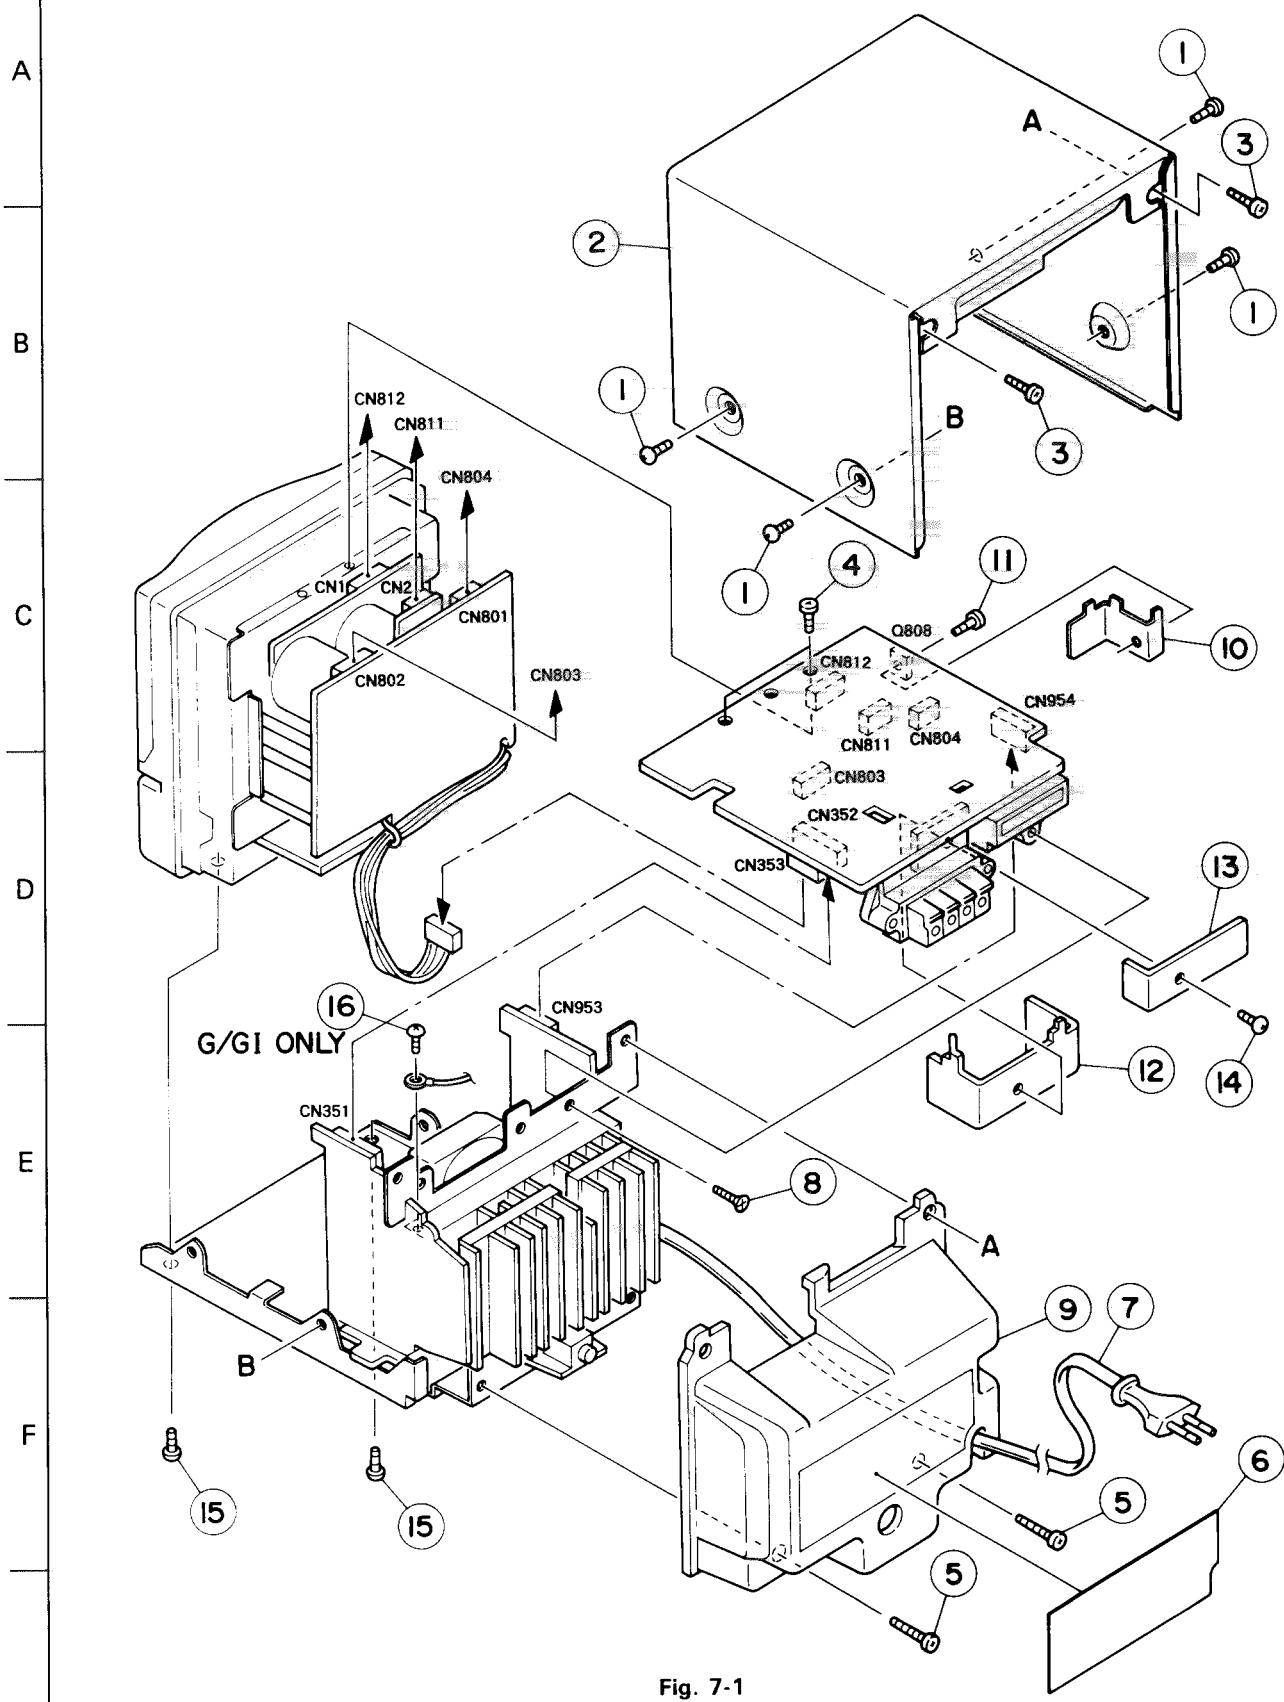

Fig. 7-1
■ Separation of Front Panel Ass'y and Power Supply Unit Ass'y (Fig. 7-1)
1. Remove the four screws ① retaining the right and left sides of the top cover from the body.
2. Remove the two screws ③ retaining the rear side of the top cover.
3. Remove the two screws ⑤ retaining the rear panel from the body.
4. Remove the one screw ⑧ retaining the mechanism control speaker terminal P.C. board from the transformer bracket.
5. From the front panel ass'y, remove the two screw ④ retaining the mechanism control speaker terminal P.C. board.
7. Remove the two screws ⑯ retaining the front panel ass'y from the bottom side of the body.
■ Analytic Drawing (1) Parts List